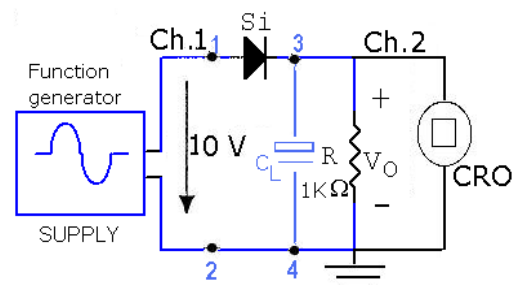

Fig.2
6. Connect the circuit as shown in Fig.2.